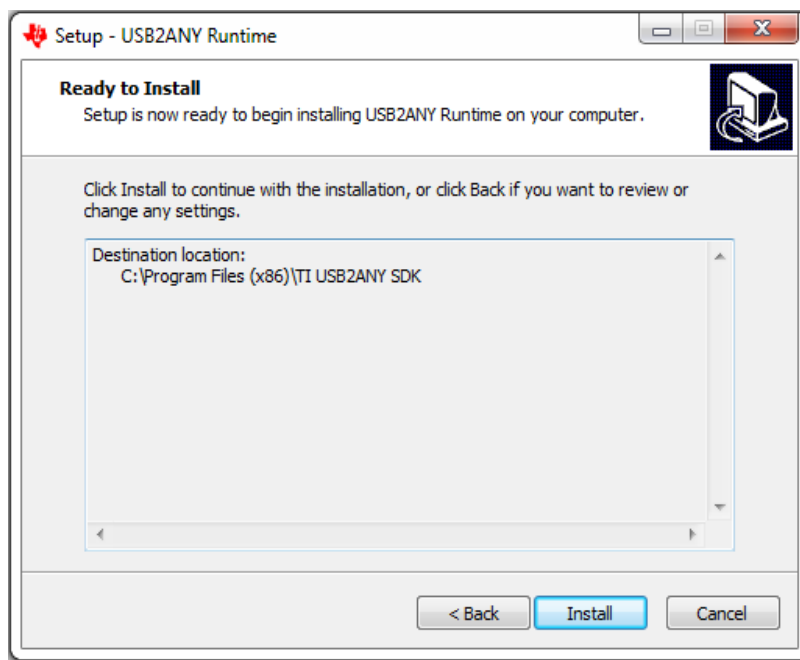

Figure 1-12 Start Installation
11. A screen as shown in Fig.1-12 will appear. Click **Install»** to begin the USB2ANY installation.